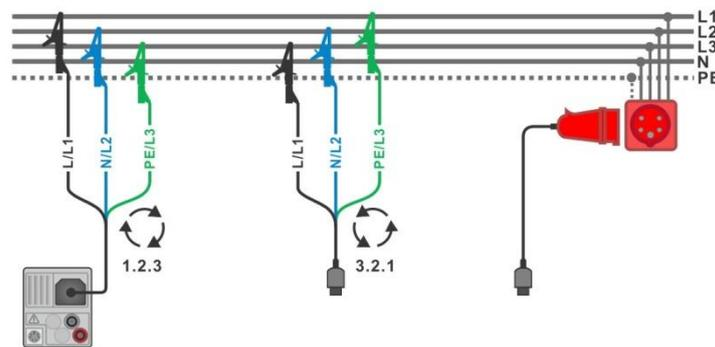
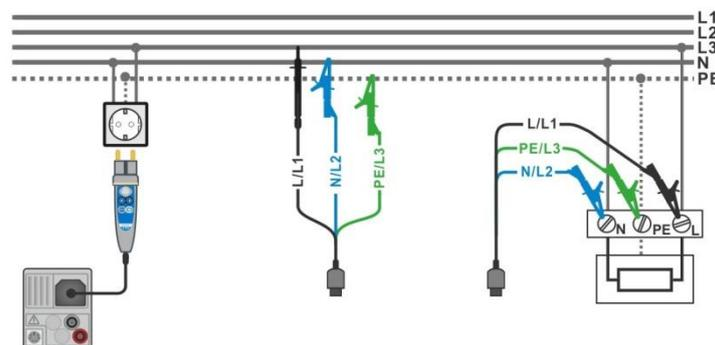

Figure 7.2: Connection of 3-wire test lead and optional adapter in three-phase system
Figure 7.3: Connection of Plug commander and 3-wire test lead in single-phase system
- ▶ Connect test leads to object under test (see **Figure 7.2** and **Figure 7.3**).